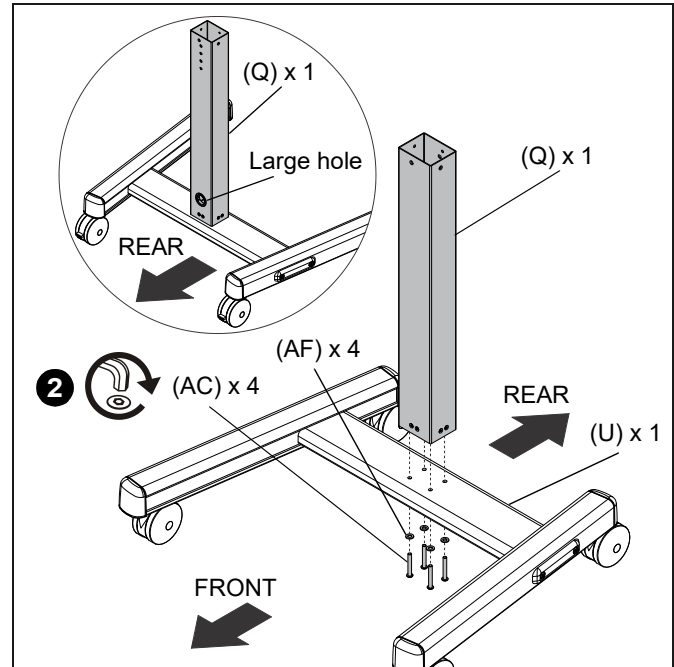

Figure 2
2. Attach the lower column (Q) to the crossbar (U) using four 5/16-18 x 2-1/4" screws (AC) and 5/16" washers (AF). (See Figure 2)